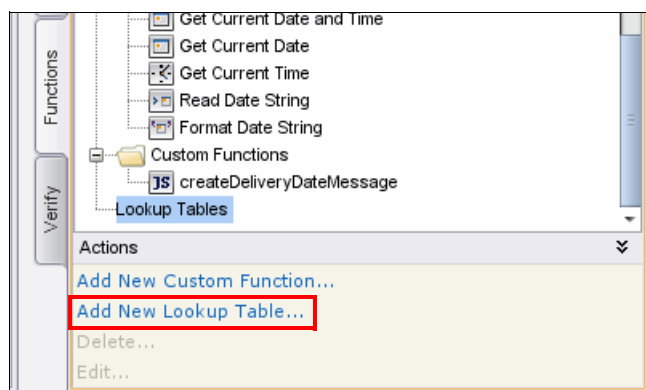

Figure 12-35 Creating a lookup table
1. With the Functions tab selected, click the **Add New Lookup Table** link that is located at the bottom of the Actions panel, as shown in Figure 12-35. You also can create a lookup table by right-clicking the Lookup Tables node.